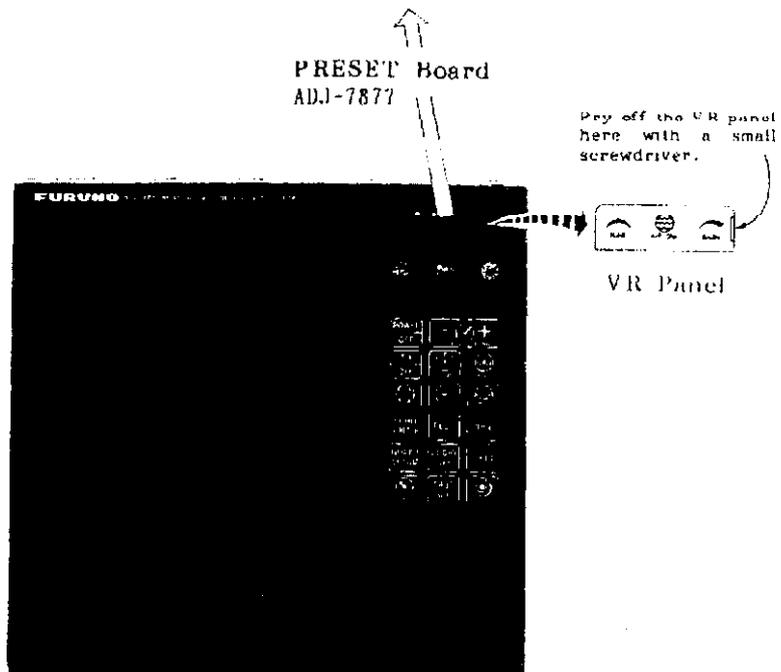

Fig.19 Display Unit with VR Panel Removed
1. Press the  touchpad on the Display Unit, and the control panel will light up. In approximately 2 minutes and 30 seconds, the message "ST-BY" will appear at center of the screen. While this warmup is in process, pry off the VR panel on the front panel of the Display Unit. See Fig.19. This will expose the potentiometers for post installation adjustments. Push in the front panel TUNE control and release it to bring it out. Set the control to 12 o'clock, the GAIN control at 2 o'clock, and the A/C SEA control at fully counterclockwise.
3. Press the  touchpad three times so that the radar is on the 24-mile range. Bring up the GAIN control until a small amount of noise appears on the screen. At this point, unless the tuning just happens to be at the optimum point, slowly adjust the coarse "TUNE" control accessible through the VR panel, watching the screen for radar targets. (See Fig.19.) You must patiently adjust this coarse-tuning control in very small increments, allowing the sweep to go around completely in order to observe the effect of a single small change in its setting. When you are finished optimizing the coarse tuning control behind the VR panel, verify that the fine TUNE control on the front panel peaks up for maximum radar echoes at 12 o'clock, or at least close to that point.
5. Compare the bearing measured in step 3 and 4 above, and calculate the direction and magnitude of the bearing error. If the error is within $\pm 5^\circ$, adjust rotary code switch S1 ("HEAD", clockwise rotation shifts the picture CW, Fig.19.)
3. Adjust the "TIMING" potentiometer (VR6, Fig.19) so that a straight object will appear straight with no "pushing" or "pulling" near the picture center.
2. Set VR4 at the position where a little background noise appears on the screen. See Fig.19 for the location of VR4.
2. Turn potentiometer VR1 ("TUNE", Fig.19), located behind the VR panel of display unit, fully CW and then slowly turn it CCW until the maximum number of tuning bars are lit.
3. Adjust potentiometer VR7 ("PEAK", Fig.19) for the maximum number of tuning bars.
The illumination of the touchpad panel can be adjusted to suit your needs, by adjusting the "DIM" potentiometer (VR5) located behind the VR panel of the Display Unit. See Fig.19 for the location of VR5.
A/C SEA is preadjusted at the factory. However if the following conditions are not satisfied with the A/C SEA control, adjust potentiometer VR3 ("A/C SEA"), located behind the VR panel of the Display Unit (Fig.19.)